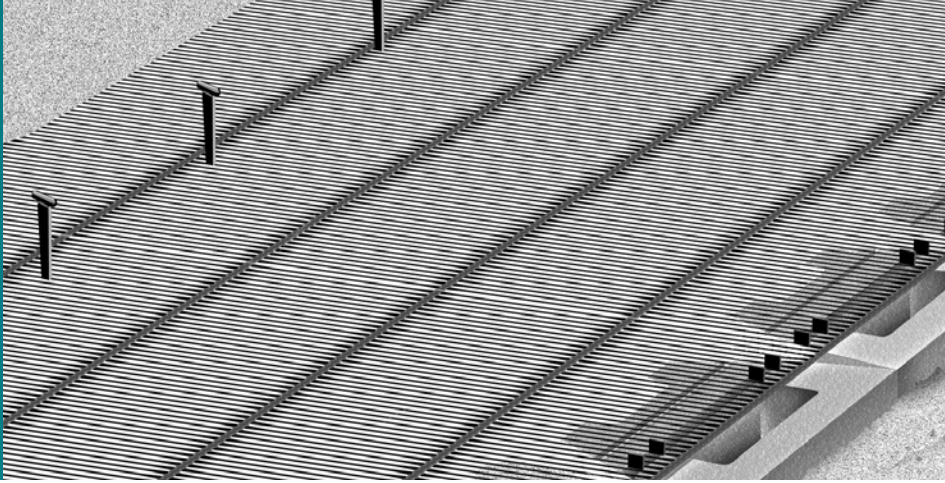

FIGURE 10: Pinning
- ▶ Remove slack from geogrid by pulling it taut and then anchoring it with stakes and/or rods (Figure 10). The stakes used to position the geogrid tail can be withdrawn once the fill is in place and then reused on subsequent lifts. A pitchfork can also help remove slack by inserting it at the tail of the geogrid and pulling until the fill has been placed on the grid. Removal of any geogrid slack will help prevent wall face movement caused by translation of the slack toward the wall face.